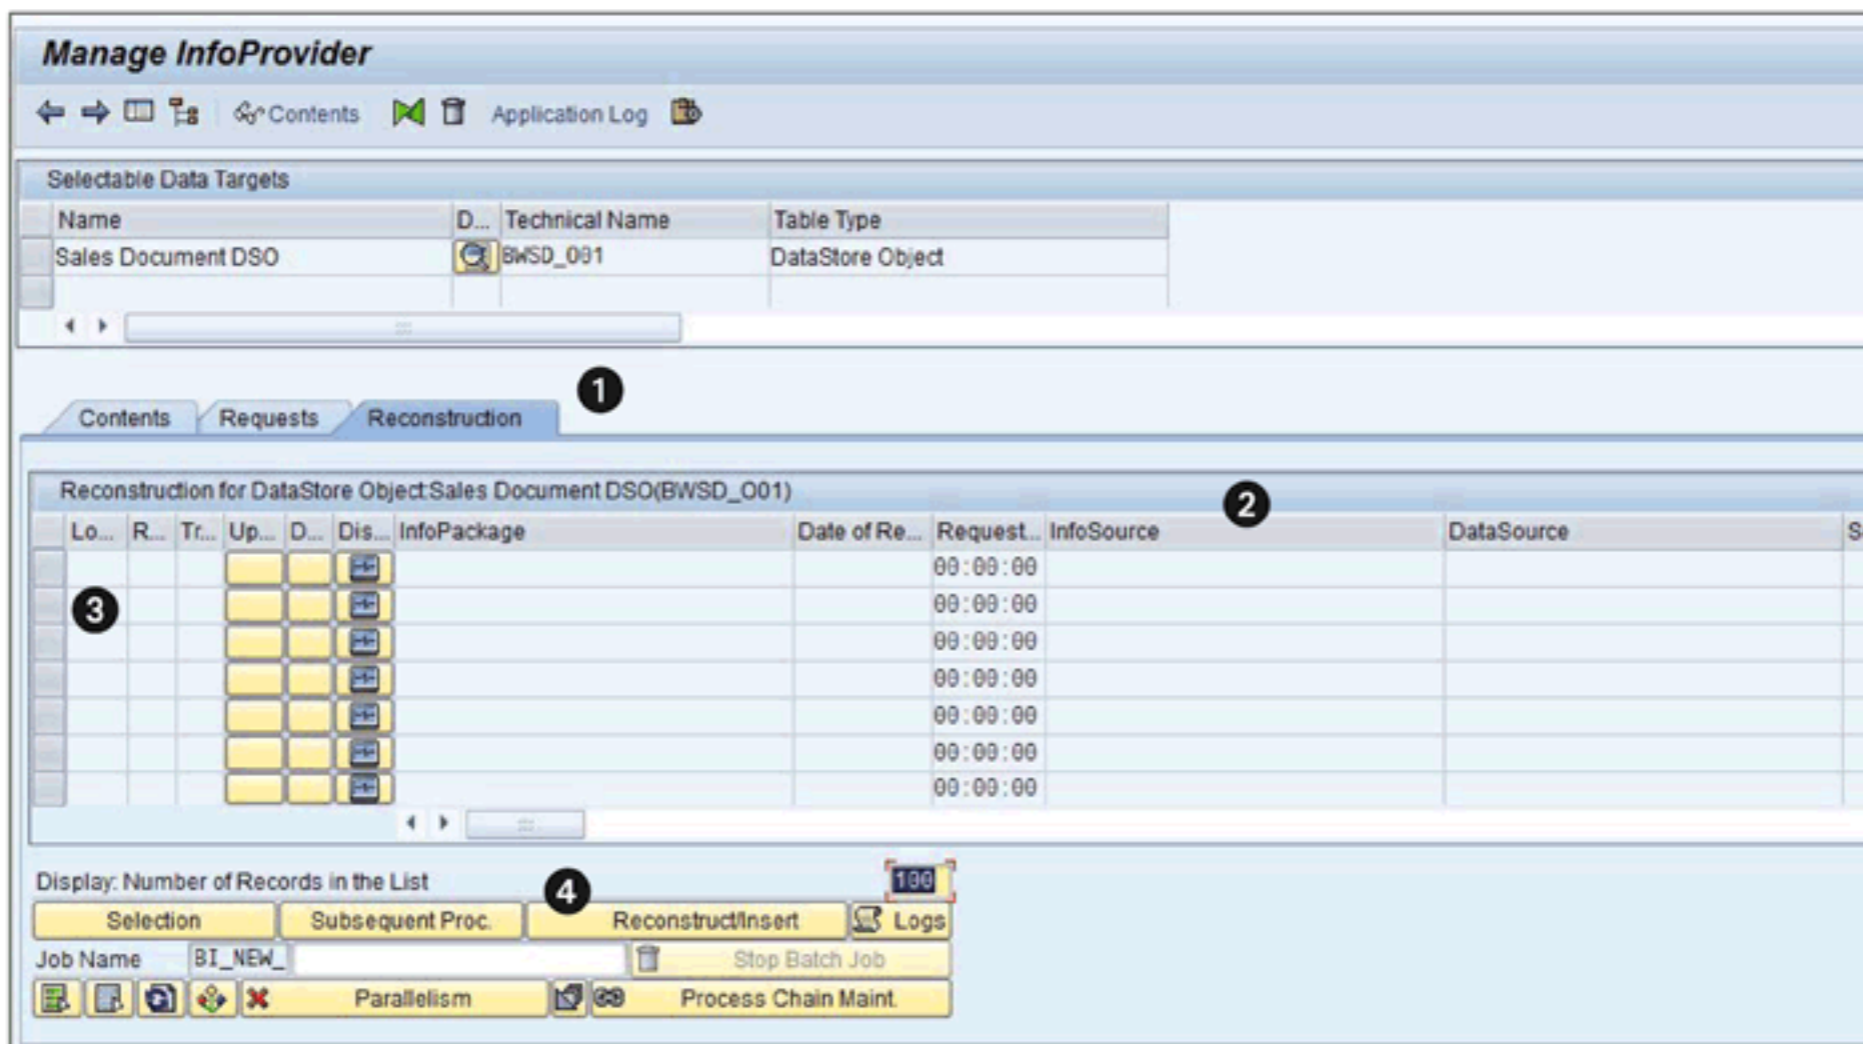

Figure 14.9 Reconstruction of a Request for a DSO
Some requests involve data that requires manual modification or cleansing. To maintain data integrity and consistency, the system doesn't allow any such changes for a single record; instead, the entire request must be deleted from the DSO. Once this is done, you can perform data maintenance in the PSA. Reloading the corrected request from the PSA to the data target is known as *reconstruction* and is managed using the RECONSTRUCTION tab (❶ of Figure 14.9).